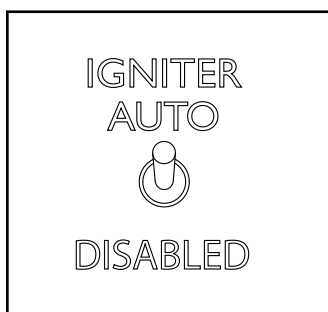
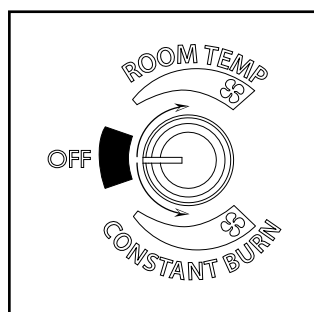

Figure 4.4
Figure 4.5
4. Flip toggle switch to desired mode "auto or manual". Figure 4.4. Set Feed Limit knob to desired setting and turn mode dial to "Room Temp" or "Stove Temp" Figure 4.5. **Note:** Feed rate of #4 is a good starting point. Adjustments may need to be made depending on fuel quality and/or heat output desired.